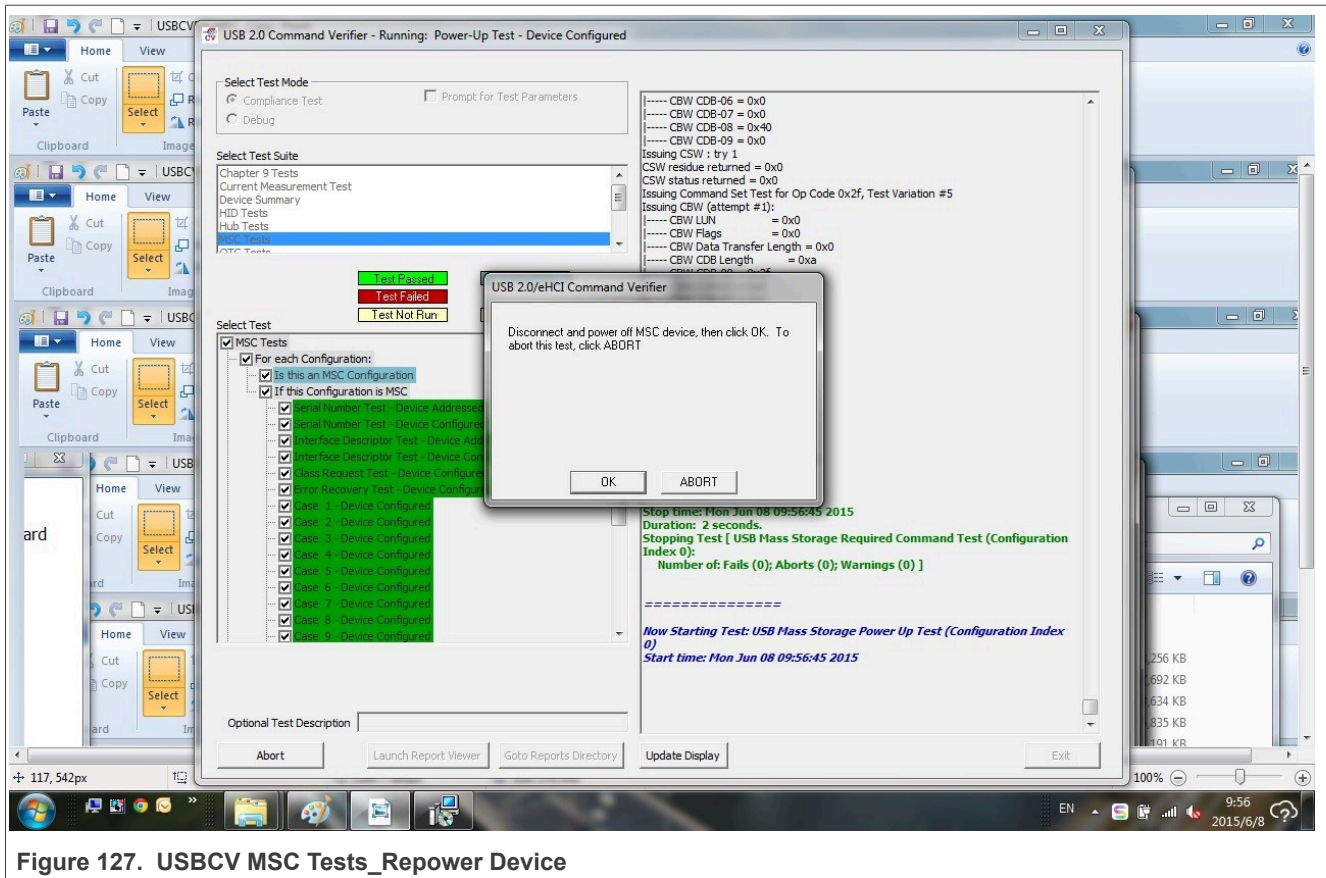

Figure 127. USBCV MSC Tests\_Repower Device
4. During the test, a pop-out dialog asks you to disconnect and power off DUT, and then repower it, as shown in Figure 127 below.